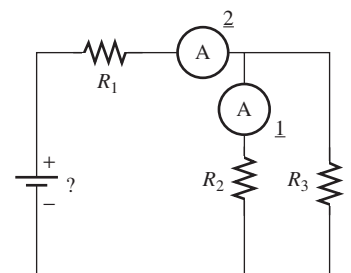

FIGURE P14.16
- 14.16** (H)* A circuit is shown in Figure P14.16; $R_1 = 100 \Omega$, $R_2 = R_3 = 150 \Omega$. Assume you have an ammeter with 5Ω internal resistor (R_{int}), and want to calculate the source voltage